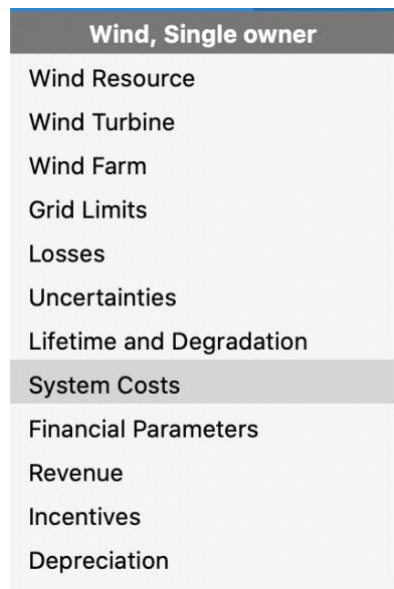

Figure 2: The LandBOSSE model is located within the *System Costs* page
2. Once you have selected the appropriate financial model, the LandBOSSE model can be found in the *System Costs* Page (Figure 2).